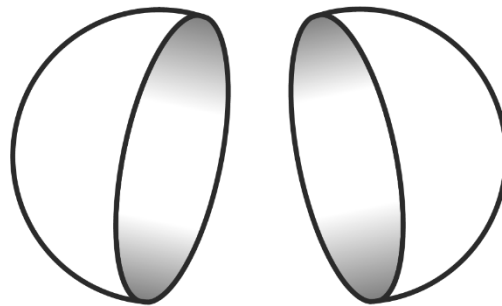

Figure 6
15. The spherical objects that represent the planets of the solar system, as seen in Figure 6, are made with a polymer called HIPS.
a. The planets are constructed out of two separate hemispheres of HIPS as seen in Figure 6. Underline the correct description of the planet's structural form.